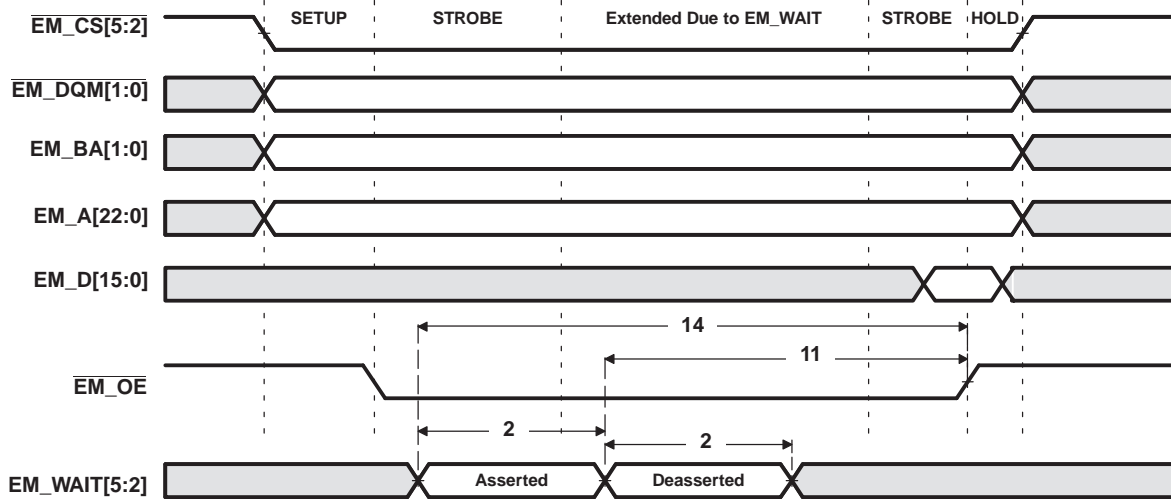
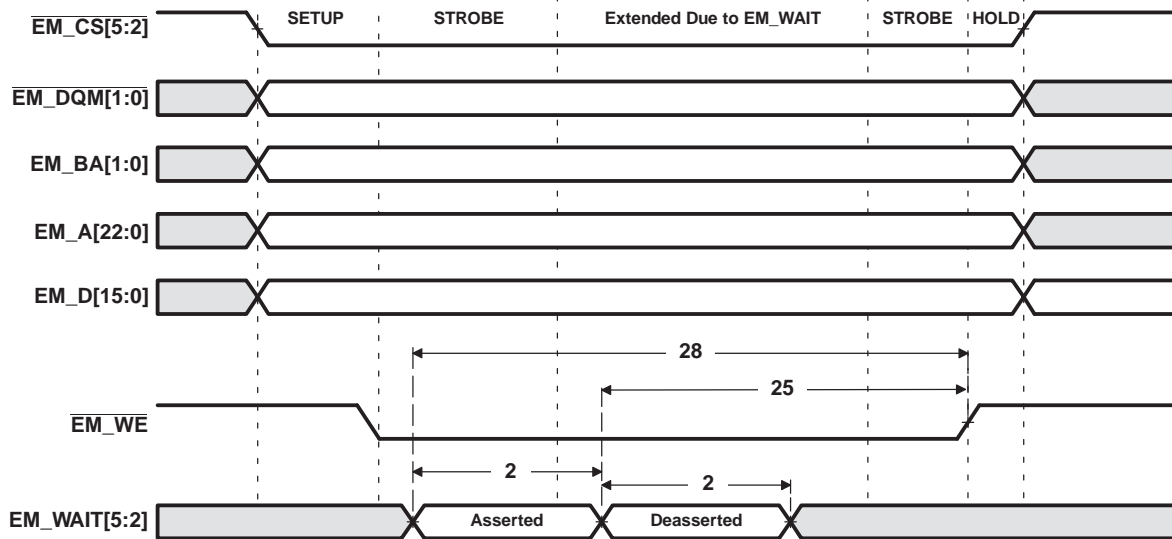

Figure 6-23. EM_WAITx Read Timing Requirements
Figure 6-24. EM_WAITx Write Timing Requirements
- (1) E = SYSCLK3 period in ns for EMIFA. For example, when running the DSP CPU at 594 MHz, use E = 10.1 ns.
- (2) Setup before end of STROBE phase (if no extended wait states are inserted) by which EM_WAITx must be asserted to add extended wait states. Figure 6-23 and Figure 6-24 describe EMIF transactions that include extended wait states inserted during the STROBE phase. However, cycles inserted as part of this extended wait period should not be counted; the 4E requirement is to the start of where the HOLD phase would begin if there were no extended wait cycles.